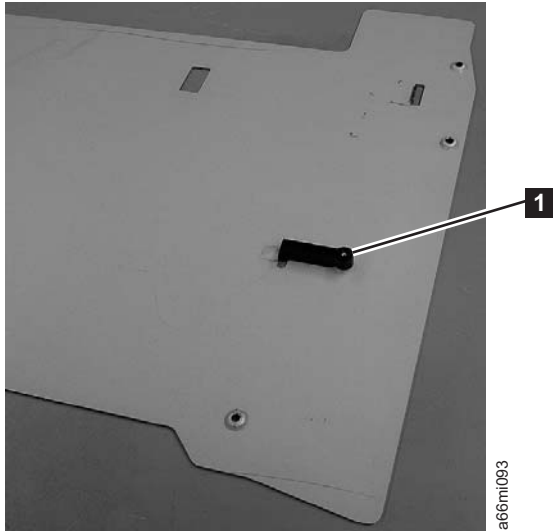

Figure 3-8. Home sensor on inner side of bottom cover
**Note:** Ensure that the home sensor plastic piece is mounted on the inner side of the bottom cover ( **1** in Figure 3-8 on page 3-10).